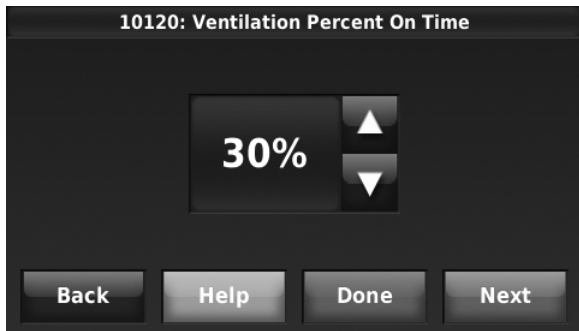

Fig. 255.
- If Percent On Time was selected for ISU 10050, select the Ventilation Percent on Time. See Fig. 255.